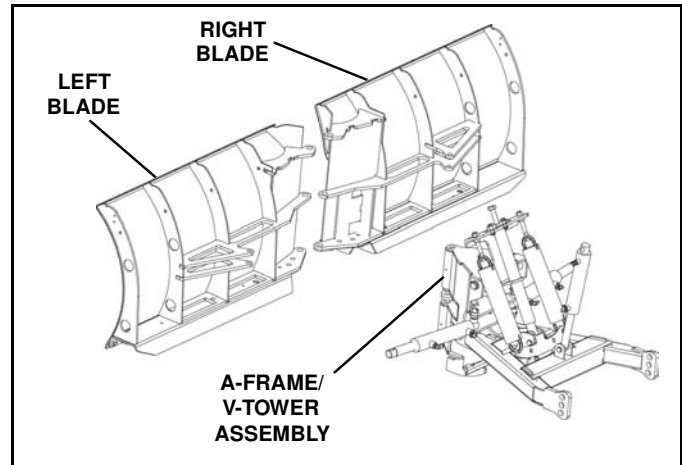

Figure 1-5
4. Position the left and right blade in front of the A-frame/V-tower assembly. (See Figure 1-5).